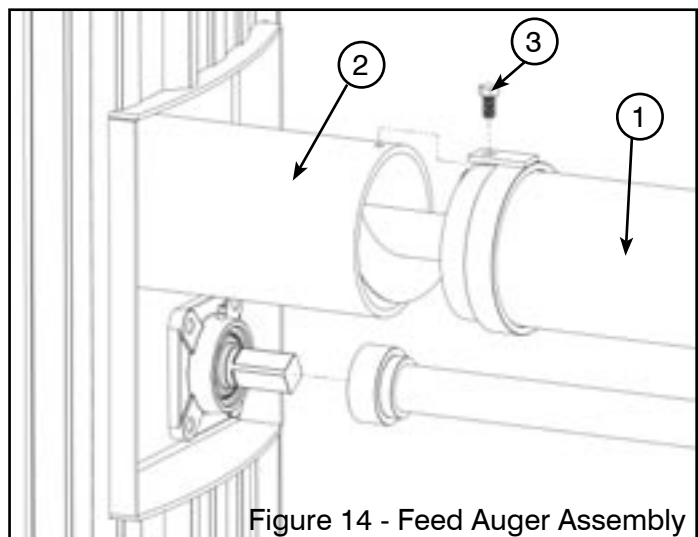

Figure 14 - Feed Auger Assembly
2. Secure the feed auger tube (1, Fig. 14) on the Pelco Hot Water Boiler (2, Fig. 14) with a $\frac{3}{8}$ " x $\frac{1}{2}$ " hex bolt (3, Fig. 14).